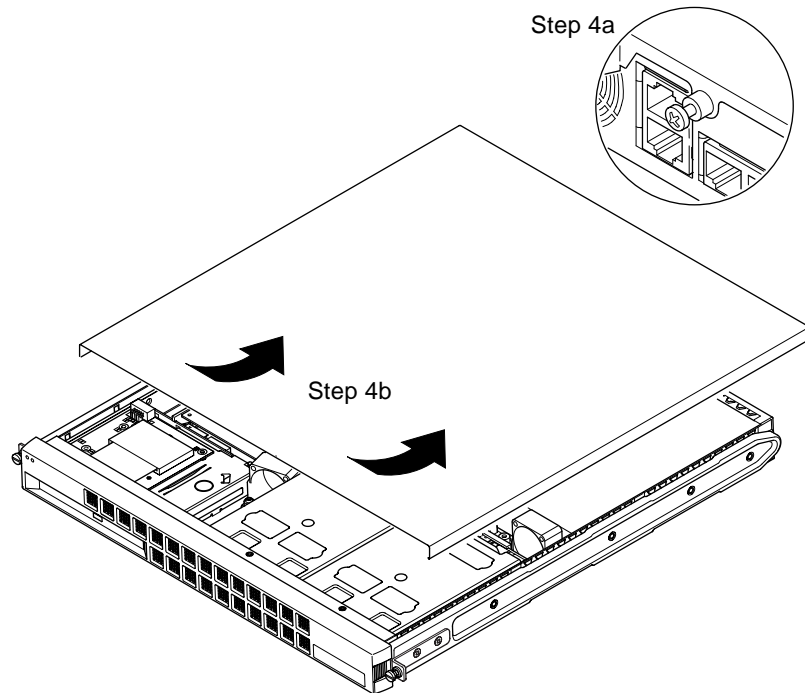

FIGURE 4-3 Removing the Top Cover
- 4. Remove the server's top cover (see FIGURE 4-3):
- a. Undo the captive screw at the rear center of the unit (see FIGURE 4-3).
- b. Slide the top cover back and lift it off (see FIGURE 4-3).